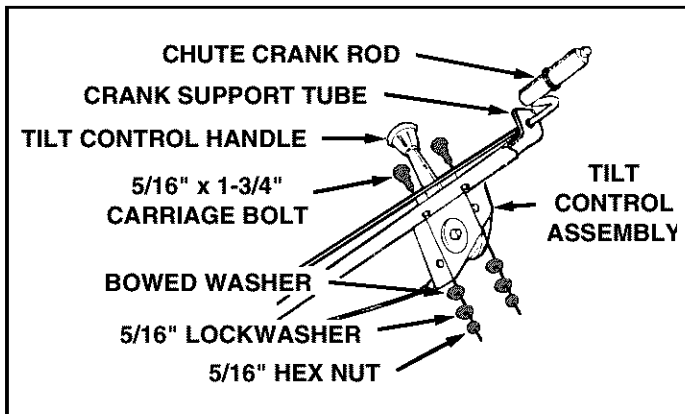

FIGURE 26 LEFT SIDE VIEW
- Attach the chute tilt control assembly to the top side of the crank support tube using two 5/16" x 1-3/4" carriage bolts, bowed washers, 5/16" lock washers and 5/16" hex nuts. See figure 26.